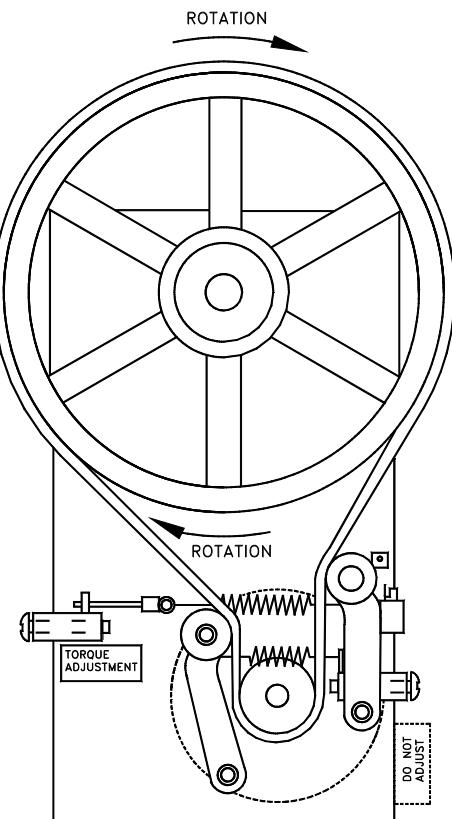

**Fig. 31
2. Using a regular straight flat blade screwdriver, turn the mechanical consistency (torque adjustment) screw (Fig. 31) clockwise to make the product harder or counterclockwise to make the product softer. Do not adjust more than one turn each time.